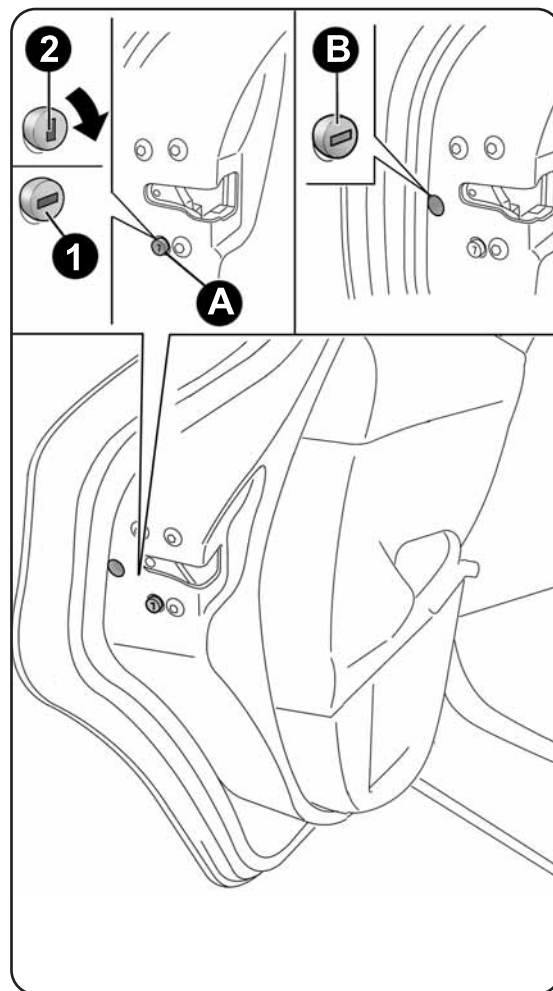

fig. 67
This device A-fig. 67 can be engaged only with rear doors open:
- insert the metal insert on the ignition key in the seat B-fig. 67;